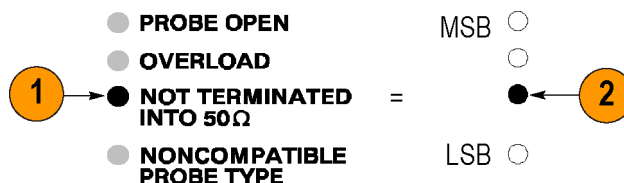

Figure 26: Interpreting the error code display
3. The four fault indicator LEDs above the ON/STANDBY switch are used to form a four-bit binary error code. (See Figure 26 on page 44.) The error codes are defined in the table. (See Table 6 on page 44.)
2. This four-bit binary code (0010) indicates an Error Code 2: a null error in the DC offset circuit occurred. (See Figure 26.)